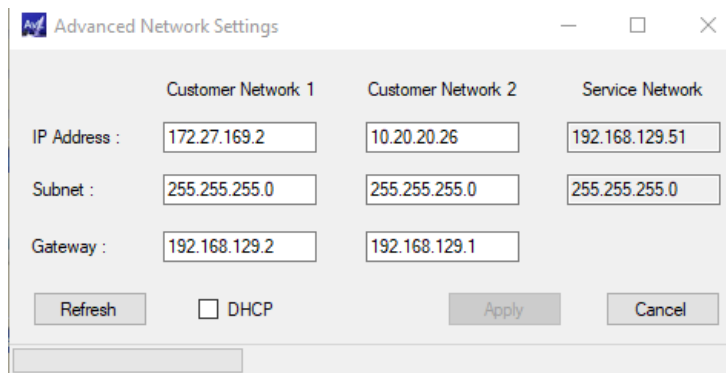

Figure 4 - AAQ Network Interface Option Window
- Figure 4 - AAQ Network Interface Option Window 5